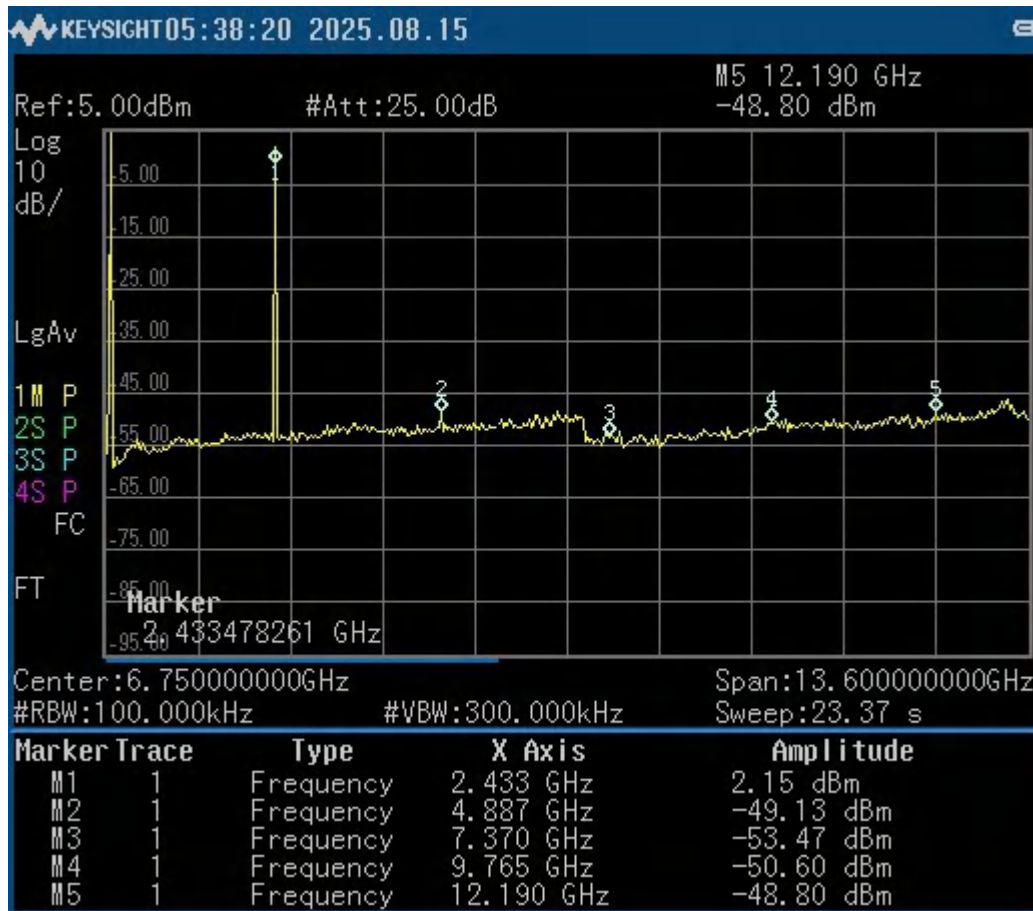

Figure 7-19. Spectrum Analyzer Output from Spurious Emissions Test
- Step 3: Measure spurs from the minimum limit to the maximum limit of the spectrum analyzer. (Reference Figure 7-19 for an example of the results on the spectrum analyzer, spurs shown are harmonics)